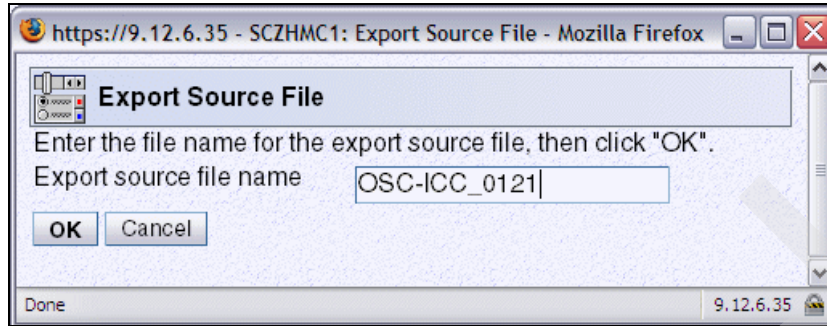

Figure 3-31 HMC - OSA Advanced Facilities (Export filename)
8. The task requests a file name to be written onto the diskette. In our example we entered OSC-ICC_0121; see Figure 3-31 on page 92. Click **OK**.